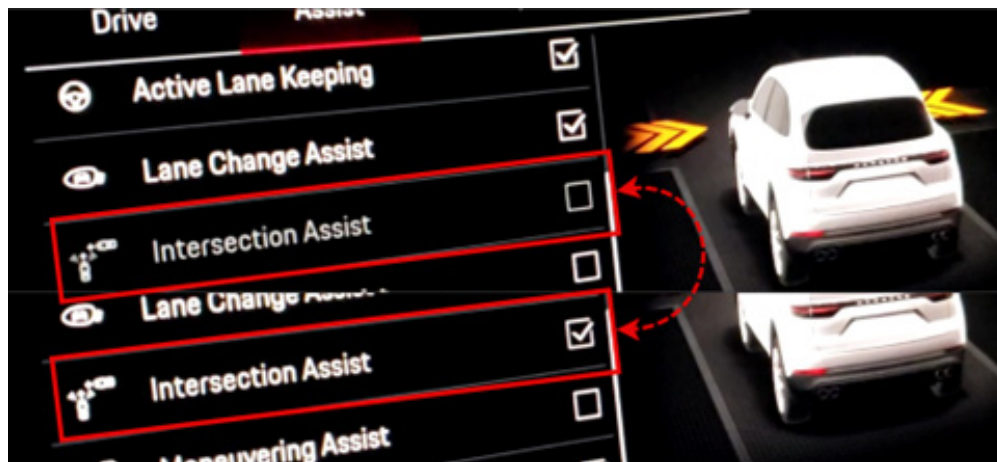

Figure 3
1. Customer states the **Intersection Assist function continuously flashes** when activated in the PCM > Car > Assist menu (Figure 3). No relevant fault codes are stored in the zFAS / Assistance System control unit.